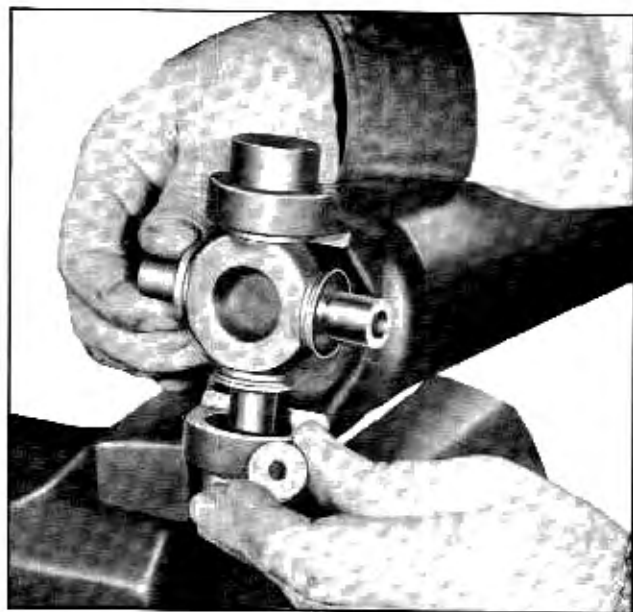

Fig. 4-49 Placing Washers Inside Bearing of Fixed Yoke Member
c. Hold journal up and install three or four small flat washers (Fig. 4-49). Lower journal onto washers and drive bearing out using drift applied to journal.